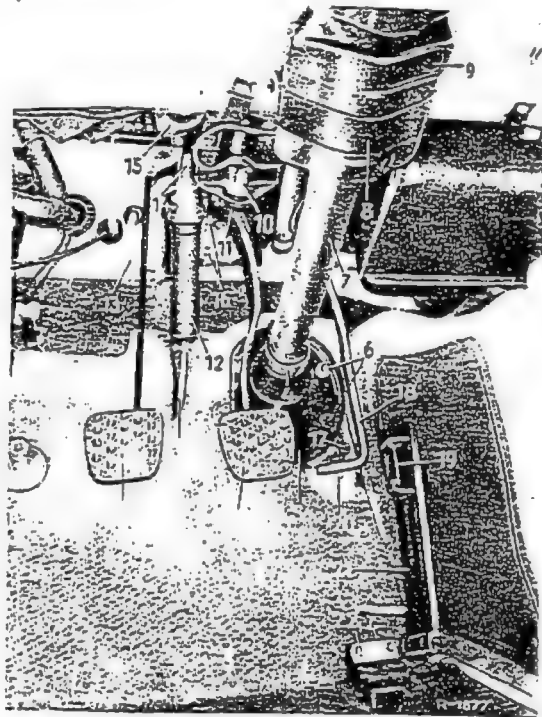

Fig. 46-8/6
5. On cars with DB power steering remove the pipe clip (4) and the hexagon screws (6) for the cover plate (3). Then push the cover plate upward until the two hexagon socket screws on the steering coupling can be loosened (Fig. 46-8/6).
6. Unscrew the clamping screw on the steering column jacket (6) for the steering lock (9) (Fig. 46-8/7).